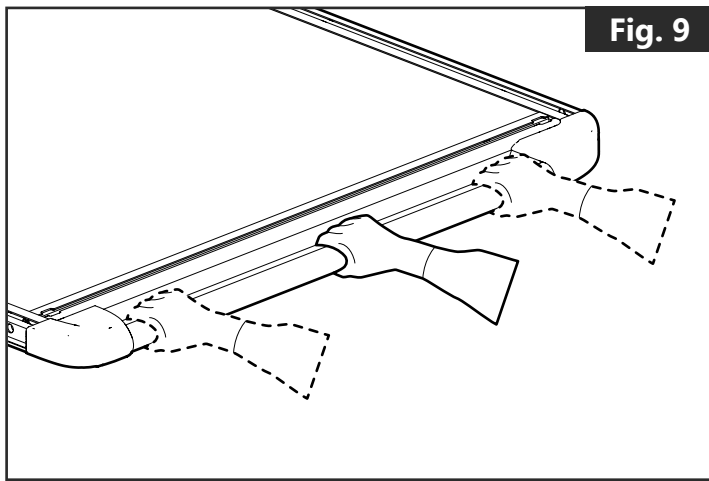

Fig. 9
- The Mountain Top Slide™ deck handle is designed to operate easily regardless of hand placement. It can be activated from both the center and sides. **(Fig. 9)**